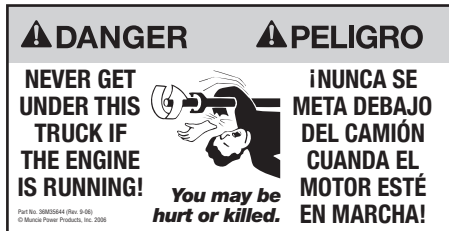

Figure 1
The two (2) Truck Frame Labels, which measure approximately 4" x 8", are to be placed on the outside of the vehicle frame rail. These labels are to be easily seen by anyone who might go under the truck or near to the PTO. One label is to be placed on each side of the vehicle. See Figure 1.